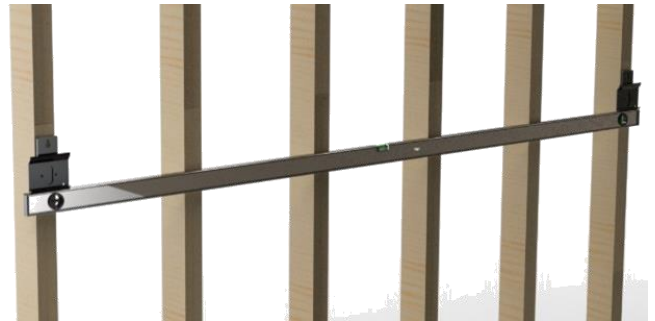

Figure 7: Wall mounts leveled and attached to two or more wall studs
2. Use a level to accurately position the wall mounts on the wall (see Figure 7), and make certain that both wall mounts are within 12 inches from either edge of the case. This will prevent the case from tilting to either side.
- a. **Note: These are heavy units. This screen must be mounted to studs or onto a wall with a continuous plywood sheath below the surface treatment (see Figure 7).**